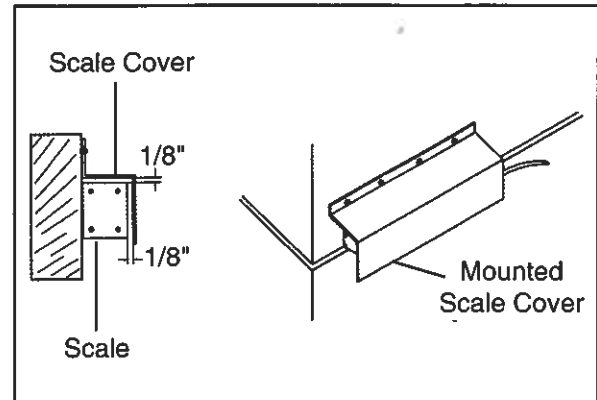

Figure 6. Scale cover clearance.
4. A clearance of at least $\frac{1}{8}$ " between the scale and scale cover is necessary (**Figure 6**).